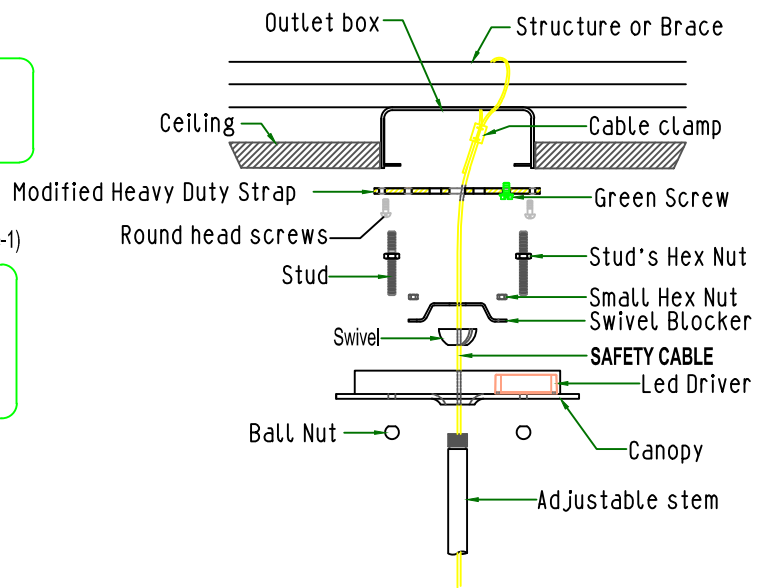

FIGURE-1
1. Attach SAFETY CABLE on building structure or brace. (See figure-1)